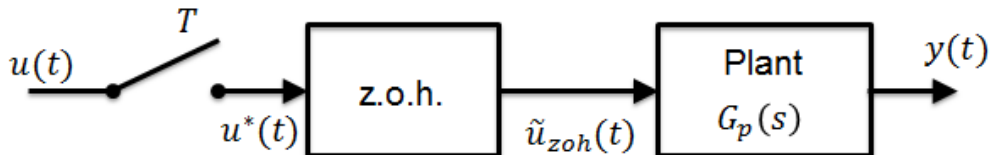
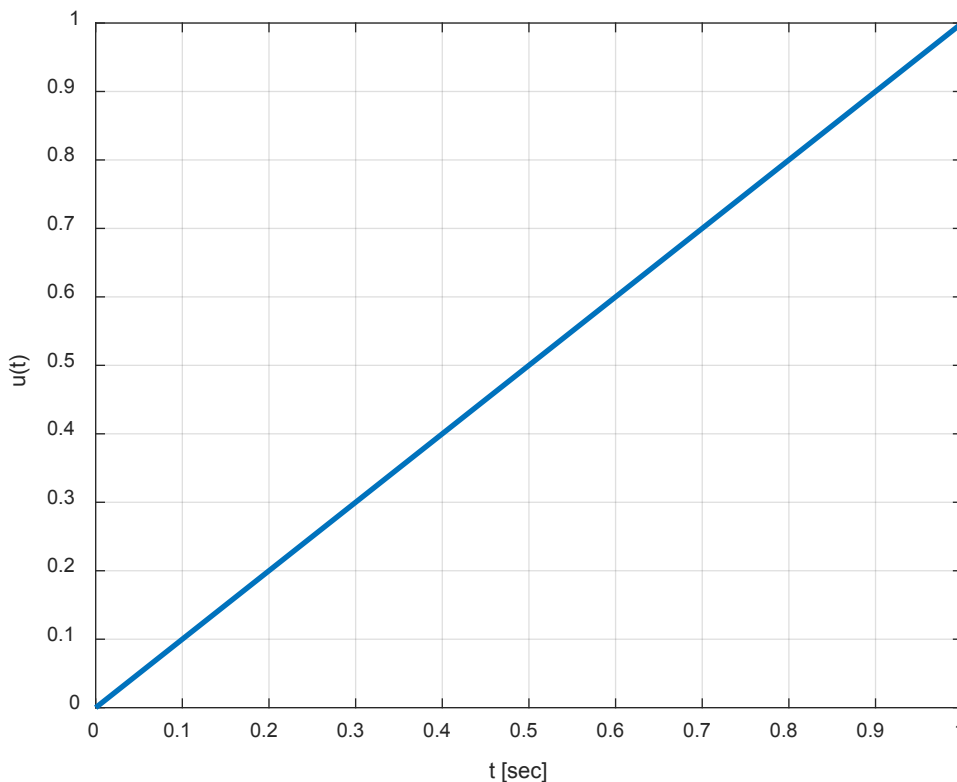

Figure 7.1: Block diagram of signal flow
Figure 7.2: Input signal
A plant with a IT1 characteristic and a transfer function $G_p(s) = \frac{1}{s(0.1s+1)}$ is excited by the input signal $\tilde{u}_{zoh}(t)$ as shown in the block diagram, figure 7.1. The digital signal $\tilde{u}_{zoh}(t)$ is generated out of $u(t)$ by using a sampler and a zero-order hold element. The input signal $u(t)$ is shown in the graph, figure 7.2.
- Draw the signal $u^*(t)$ into the graph of figure 7.2, when the sampling time of the sampler is $T = 0.2$ s.
- Draw the signal $\tilde{u}_{zoh}(t)$ into the graph of figure 7.2, when the sampling time of the sampler is $T = 0.2$ s.
- Using the signal $\tilde{u}_{zoh}(t)$ from task b), sketch the output of the plant $y(t)$ into the graph of figure 7.2.